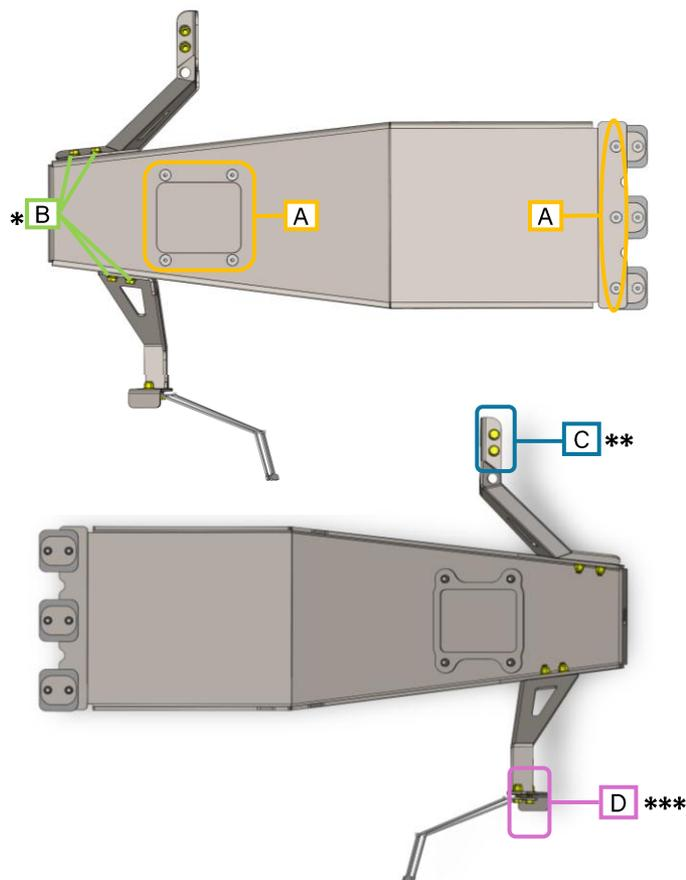

Figure 44: bolt callouts on engine skid plate
37. Proceed with Table 3 while referencing Figure 44. Tighten the engine skid plate hardware to the following specification. **Pay attention to the \* notes at the bottom of the page.**